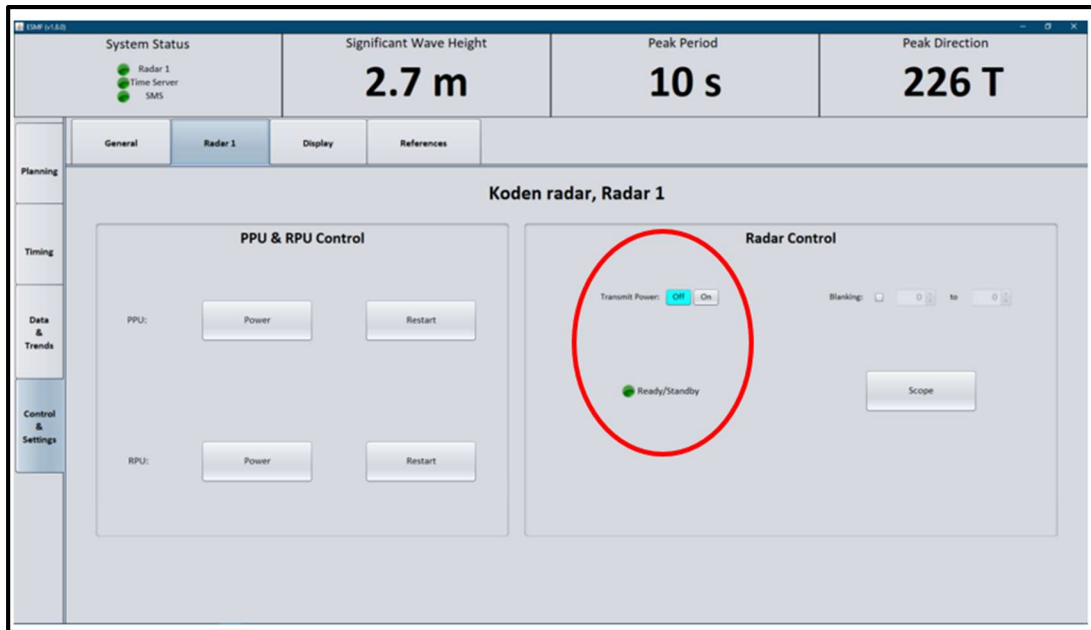

Figure 4: Location of the ‘Transmit Power’ buttons and ‘Ready Status’ indicator in the *Radar Control* section of the **Radar-1 Tab**.
6. (Refer to Figure 4) The next step is to start the radar. Click **Radar-1** on the upper horizontal tabs. Look at the *Radar Control* section on the right half of the display. The ‘Transmit Power’ should be ‘Off’ because the radar is not transmitting. The ‘Ready Status’ indicator should indicate green if the radar subsystem is ready to begin transmitting.